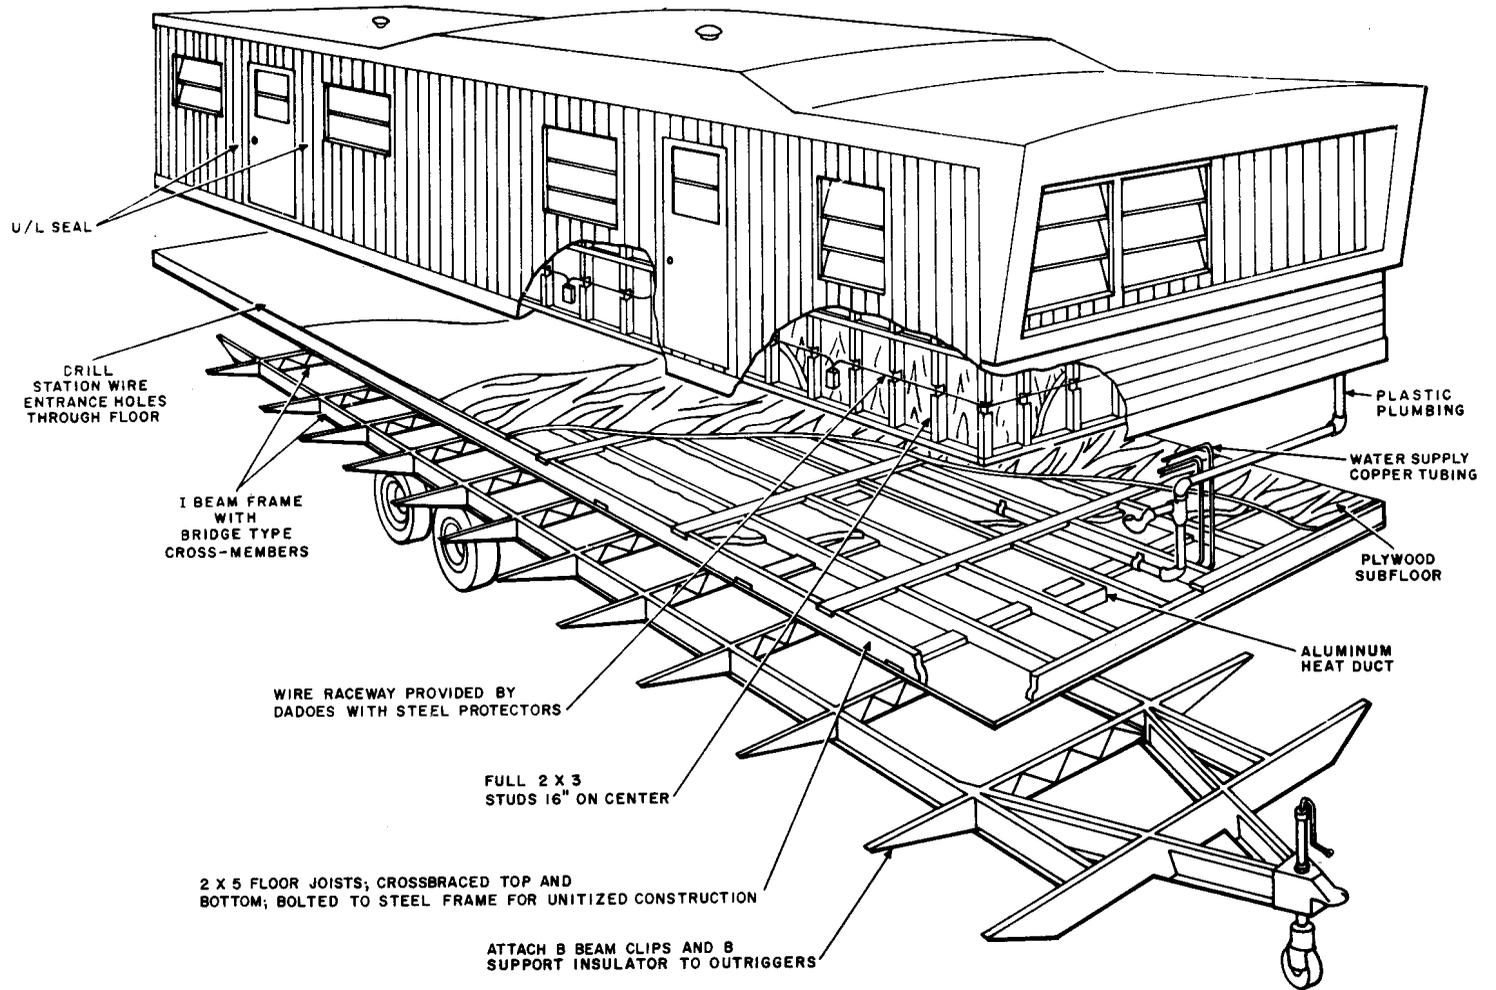

Fig. 8—Typical Mobile Home Construction
**4.10** The heating, plumbing, sewer, and water pipes run down the center. Electrical wiring is in the outside walls of the mobile home (see Fig. 8), approximately 16-inches above the finished floor level or in the ceiling, leaving the floor area along the outside walls free for drilling for station wire entry. Drill straight down through plywood floor avoiding outriggers. Use care when drilling the soft insulating board covering the bottom of the mobile home as it tears easily. Seal holes around